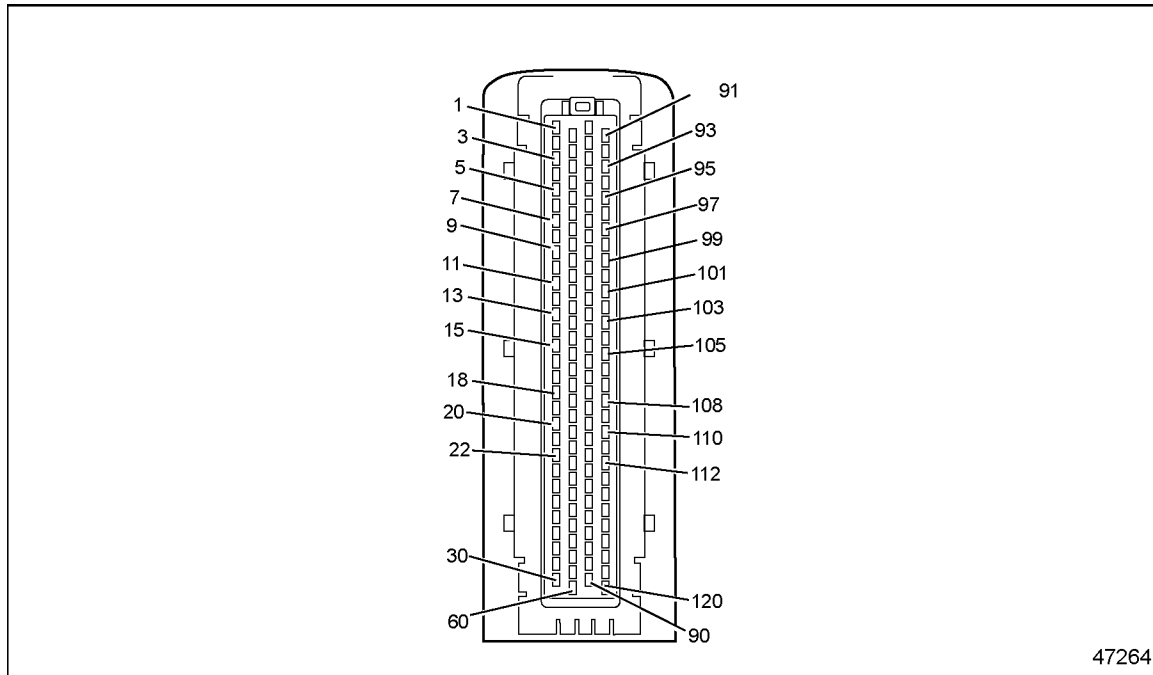

Figure 21-2 120-pin MCM Connector
- [a] If the voltage is between 4.5 and 5.5 volts, repair the open circuit between pin 2 of the Intake Air Delta P Sensor harness connector and pin 103 of the 120-pin MCM connector. See Figure 21-2. Refer to section 21.1.1.1.